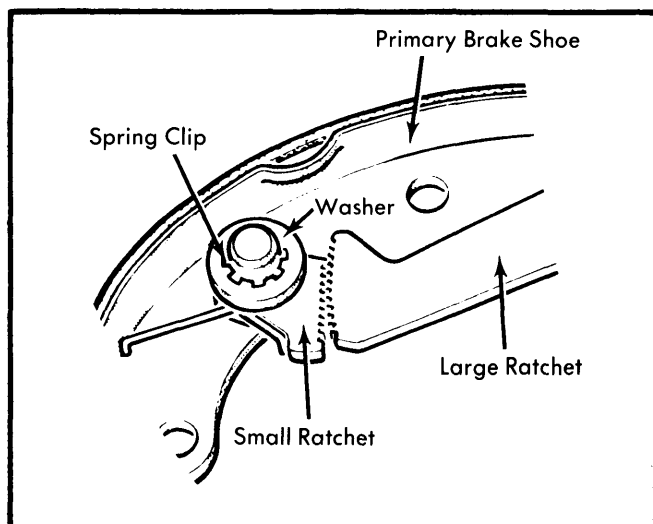

Fig. 7 Assembling Large & Small Ratchets on Primary Brake Shoe
- c. Position two ratchets relative to each other with an overlap. See Fig. 7